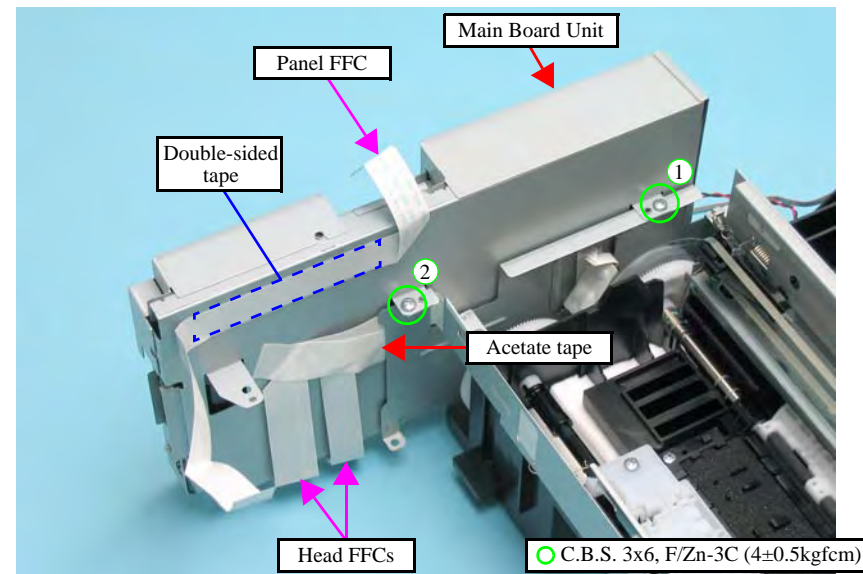

Figure 4-14. Removing the Main Board Unit
- When installing the Main Board Unit, tighten the screws in the order given in Figure 4-14.